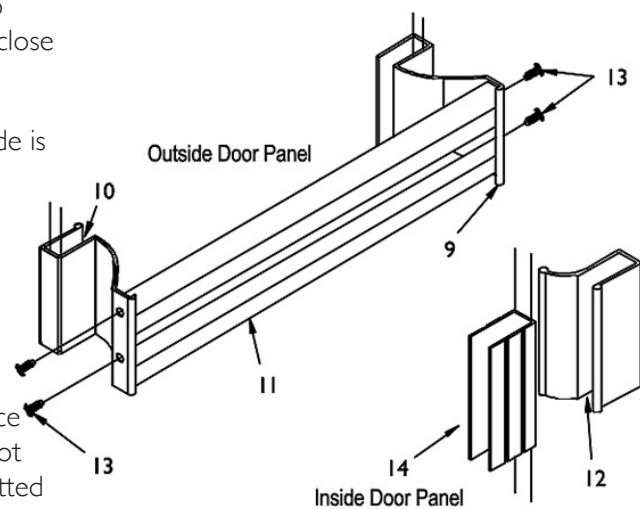

FIGURE 3
10. To set slider glass in place, hold inside slider panel (16) inside of tub or shower pan, insert rollers up into header and lower into place. Next, insert lower end of outside slider (17) in front of inside slider by pushing lower end far enough in, to allow clearance on inside edge of tub or pan. Avoid roller bracket to roller bracket contact while lifting panel into place. The outside slider will close against the jamb opposite the shower head.
11. Place center guide (7) to center position on sill. Make sure the center guide is hooked into the slot position on the sill then snap center guide to sill.
12. Close panels and adjust to align the vertical edge of panels with jamb and post. Using a 1/4" box-end wrench, loosen the screws on the rollers, but don't remove completely. When screws are loose, adjust panel by sliding the screw are loose, adjust panel by sliding the screw in the slot. NOTE: When screws are loose be sure to support panel so it does not fall and break. Adjust the inside slider as low as possible to reduce the gap between bottom of slider and sill taking care that the glass does not drag on the track or center guide. Adjust for bowed glass by using the slotted hole in the jamb. Secure bumpers to the jambs using 6-32 x 1/2" screw (5). A 7/64" hole needs to be drilled into the 180° post (19) to attach the ZV-924 (4).
13. Set handle vinyl channel (14) in place over edge of outside glass panel (17) with bottom vinyl in line with bottom of bumper. Tap towel bar brackets (9 & 10) in place. Bracket with pull should be to jamb side of slider opposite shower head. Assemble towel bars (11) to bracket using #6 x 3/8" SMS (13). (See Figure 3).
14. Set handle in vinyl in place over edge of inside glass panel (16) with bottom of vinyl in line with bottom of bumper edge facing the wall jamb. Tap inside door pull (12) in place. NOTE: Large portion of pull to inside of slider.